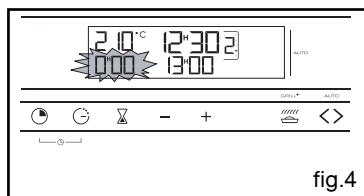

fig.4
Example: temperature reference 210°C (fig.4).
- 0:00 flashes (fig.4).
The display goes back to showing the time of day by moving the function selector back to 0 (fig.4).
But you can adjust it by moving the temperature selector to + or -(fig.4).